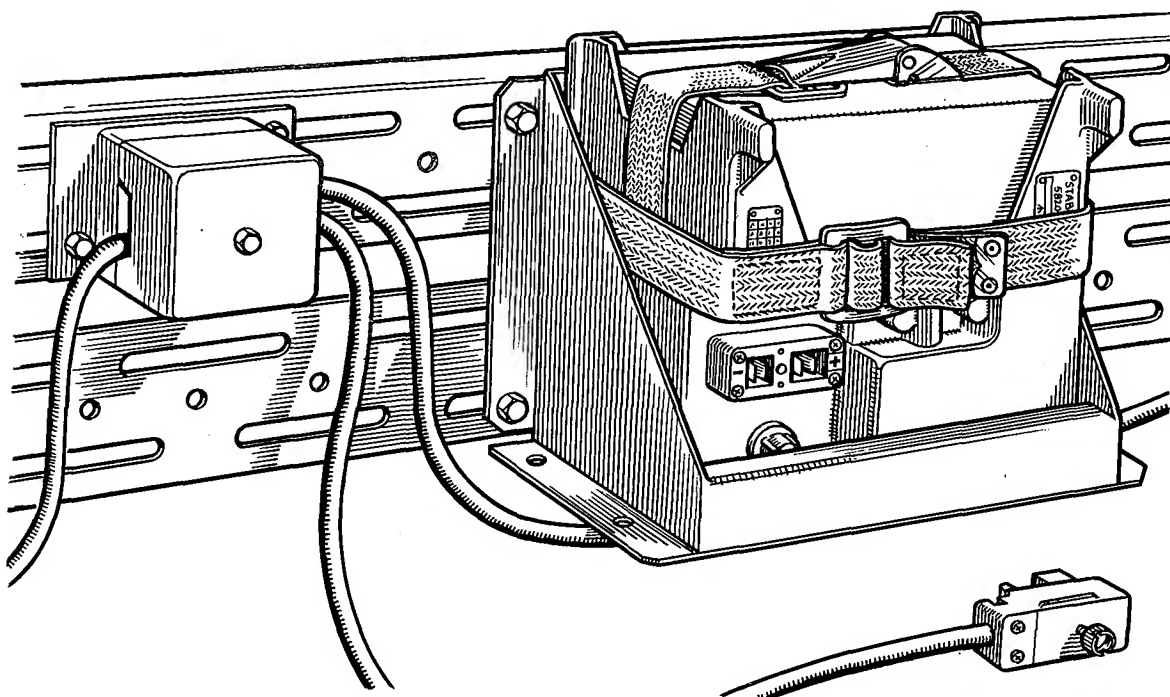

FIG. 35 STABILISER MOUNTED ON FRAMEWORK
Bolt the bracket to the framework using four screws, nuts and washers supplied with it. Fit the battery into the stabiliser and fasten the securing strap. Fit the stabiliser into the bracket and fasten the strap. See fig. 35. If two stabilisers are to be fitted, install them both in the same way.
Bracket stabiliser, 8.3/4 x 4.7/32 x 6.7/8-in. (5820-99-103-6926) (two)	To mount stabilisers on the slotted angle framework. See fig. 35
(7) Fitting the stabiliser
- (a) When the stabiliser is required in the installation, bolt the bracket to the slotted angle framework. Four screws, nuts and washers are supplied with it. Fig. 35 on page 68 shows it fitted.